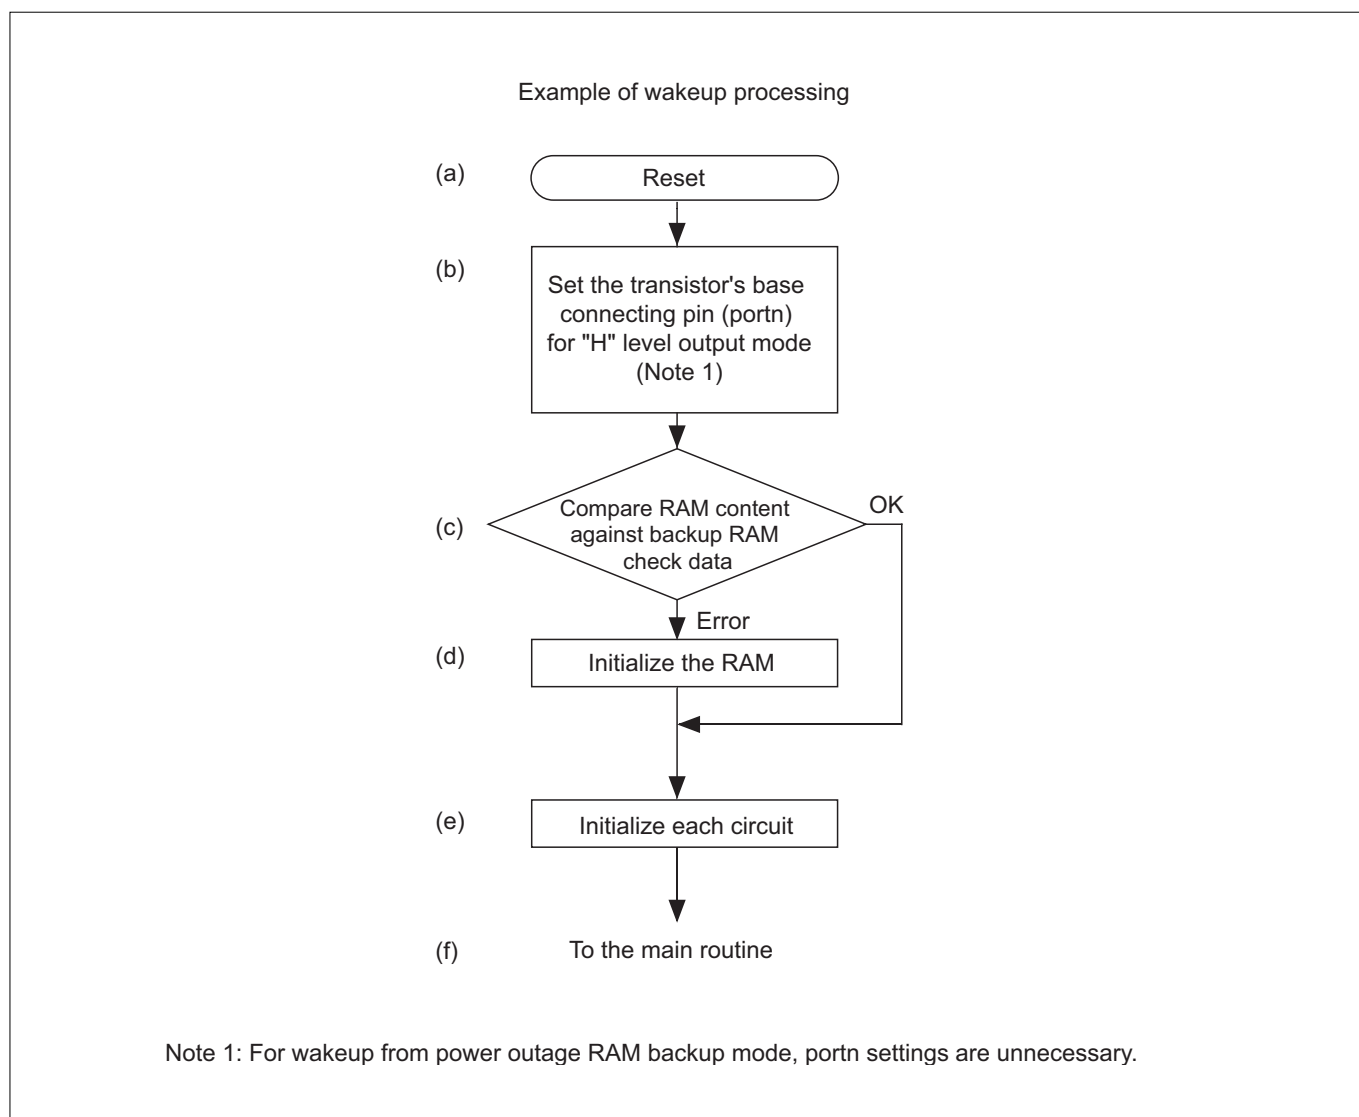

Figure 19.4.1 Wakeup Processing
The processing to place the M32R/ECU out of RAM backup mode and return it to normal operation mode is referred to as “wakeup” processing. Figure 19.4.1 shows an example of wakeup processing.
- (1) Reset the microcomputer ((a) in Figure 19.4.1).
- (2) Set portn for output mode and output a "H" from the port ((b) in Figure 19.4.1) (Note 1)
- (3) Compare the RAM content against the RAM check data created before entering RAM backup mode ((c) in Figure 19.4.1).
- (4) If the comparison in (3) did not match, initialize the RAM ((d) in Figure 19.4.1).
- (5) Initialize each internal circuit ((e) in Figure 19.4.1) before returning to the main routine ((f) in Figure 19.4.1).